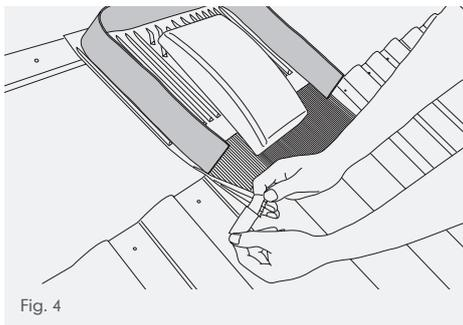

Fig. 4
- 6 Peel off the release paper from the butyl along the underside leading edge of the corrugated flashing and press the flashing down evenly, ensuring a good seal against the tiles below. The surface of the tiles to which the butyl is adhered must be dry and free of dust (Fig. 4).